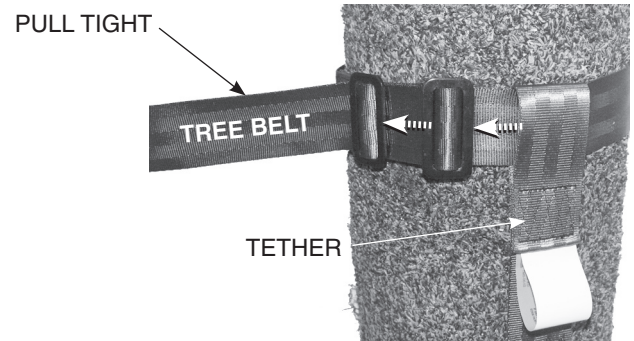

FIGURE 9
1. While wearing your Full Body Harness (FAS) correctly, wrap the tree belt through the loop end of the tether and around tree. Take the tail end of the tree belt and feed it through the (2) adjustment slides on tree belt. **SEE FIGURE 9.** Pull the tail of tree belt tight.
NOTE: Be sure the (2) adjustment slides are facing away from tree, preventing any obstruction. Do not position tether on or between the (2) tree belt adjustment slides. SEE FIGURE 9.